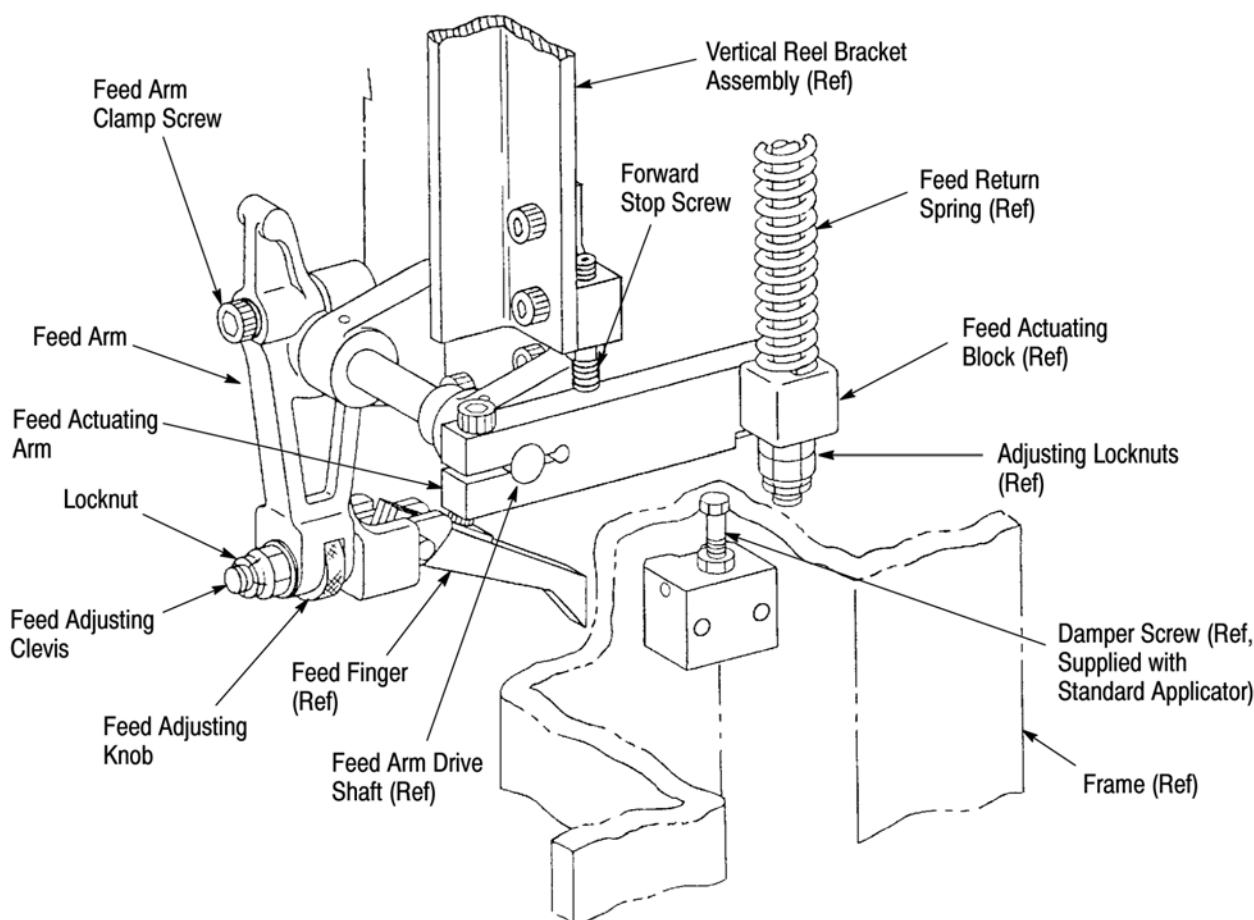

Figure 22
A. Description (Figure 22)
B. Adjustment (Figure 22)
If the machine has a damper screw and/or forward stop screw (see Figure 22), screws MUST be backed off so that they are not active.